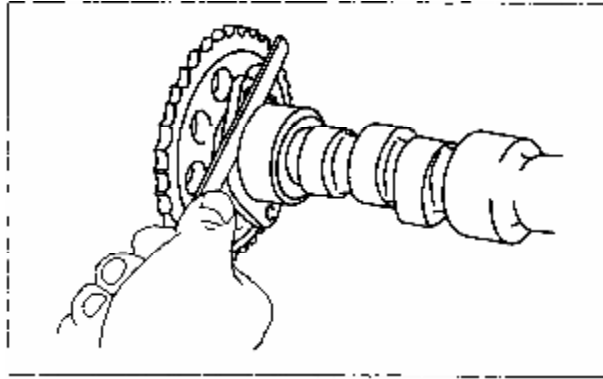

Figure 3-39 Measure Camshaft Axial Clearance
3.4.4 Install the thrust plate and camshaft sprocket onto camshaft, tighten the fixing bolts of camshaft sprocket with a 90N.m tightening torque, and then measure axial clearance between thrust plate and first journal thrust surface with a feeler (see Figure 3-39). The nominal axial clearance is 0.07~0.22mm. The maximum axial